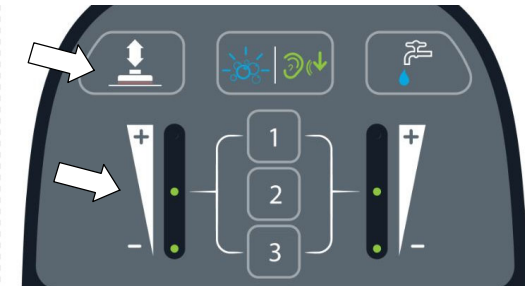

FIG. 40
2. Press the down pressure button to increase or decrease the down pressure (Figure 40). The down pressure indicator will display the pressure setting. One LED = Low pressure, two LED's = Medium pressure, three LED's = High pressure.